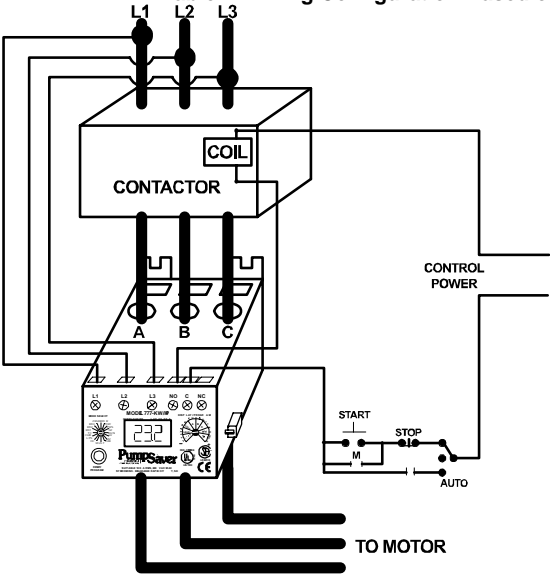

Figure 1: Typical Wiring Diagram for FLA of 26-90A
3. A) For amperage ranging from 25-90 amps, insert the motor conductors through the holes marked A, B, and C. Make certain the conductor through each hole corresponds to the same motor conductor, i.e. the A phase conductor should go through the A round hole. See Figure 1 for a typical wiring diagram.
4. Connect 3-phase power from the line side of the contactor to the L1, L2, and L3 terminals using 12-18 AWG copper wire. These should be tightened to no more than 7 in.-lbs. Figure 1 is drawn for a power system wired in ABC sequence. For power systems with ACB sequence, switch the L1 and L3 connections on the 777-P.